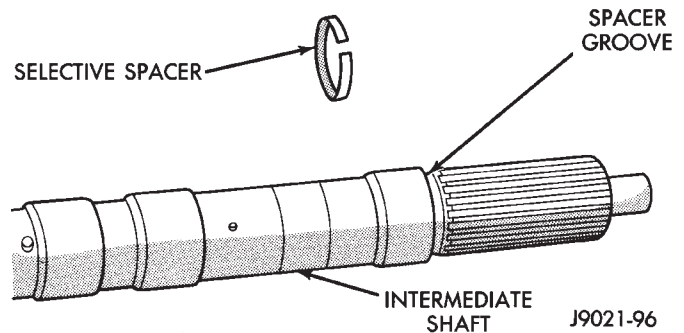

Fig. 11 Intermediate Shaft Selective Spacer Location
(6) Install selective spacer on intermediate shaft, if removed. Spacer goes in groove just rearward of shaft rear splines (Fig. 11).